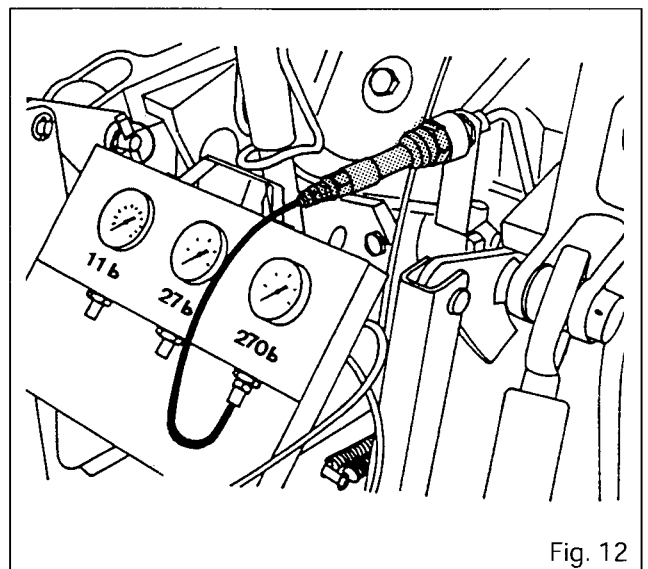

Fig. 12
40. Connect a pressure gauge to the trailer brake connector (Fig. 12).